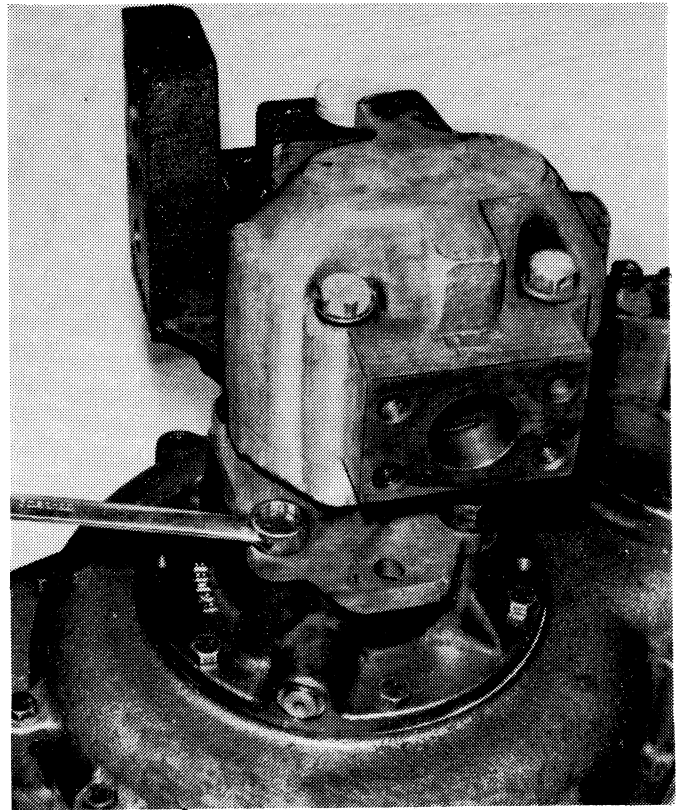

Figure 6-9. Removing or Installing Oil Pump.
18. Remove four hex-head screws (Figure 12-1, 23), two washers (22), oil pump (21), and gasket (17). See Figure 6-9.